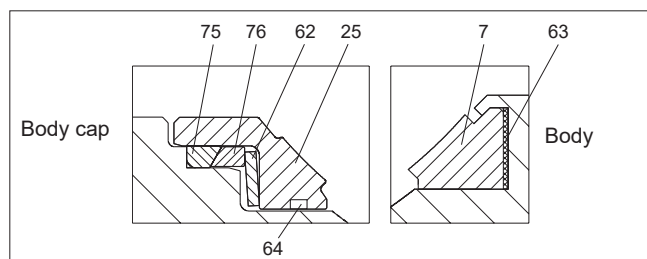

Fig. 24 G seat (2")
- Place the back seal (63) into the body counterbore. Then place the seat (7) into the body counterbore, see Fig. 24.
- Place the back seal (75), back-up ring (76), spring (62) and the seat (25) with back seal (64) into body cap, see Fig. 24.